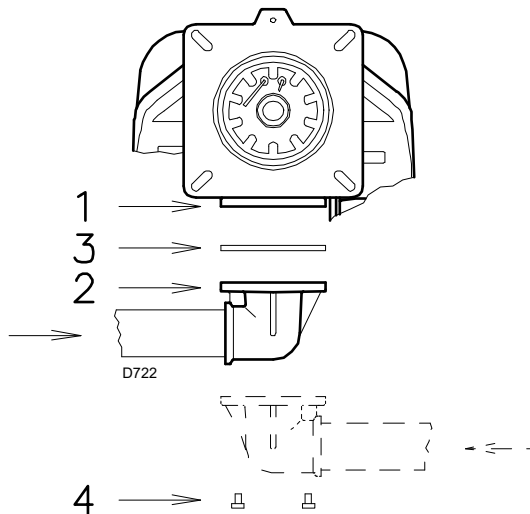

Fig. 19
- The gas train must be connected to the gas attachment 1)(Fig. 19) with the flange 2), the gasket 3) and the screws 4) supplied with the burner.